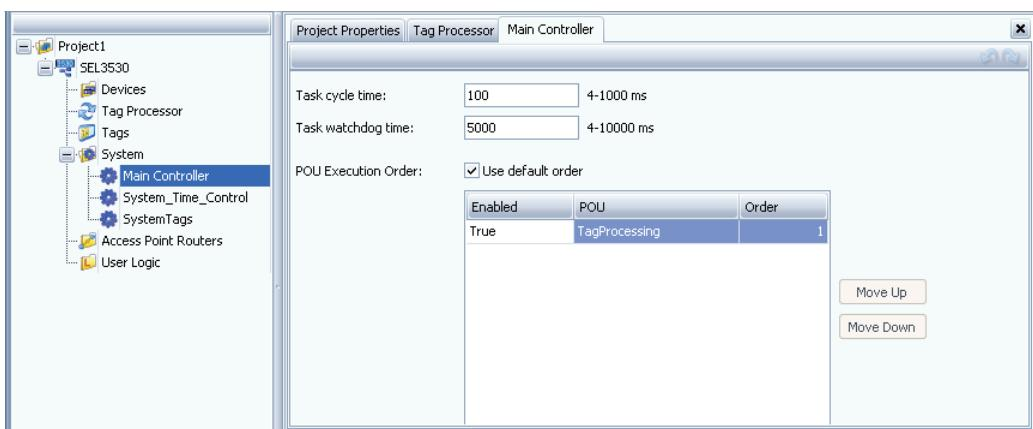

Figure 11.7 Set RTE Performance Watchdog Time-Out
1. **Real-Time Engine (RTE) Performance Watchdog:** Monitors run time of tasks to ensure that no task attempts to monopolize CPU resources (a program that has entered into an endless loop, for example). From the Main Controller setting tab, set the task watchdog time in ACSELERATOR RTAC. See *Figure 11.7* to set RTE Performance Watchdog. Time-out results in the following: